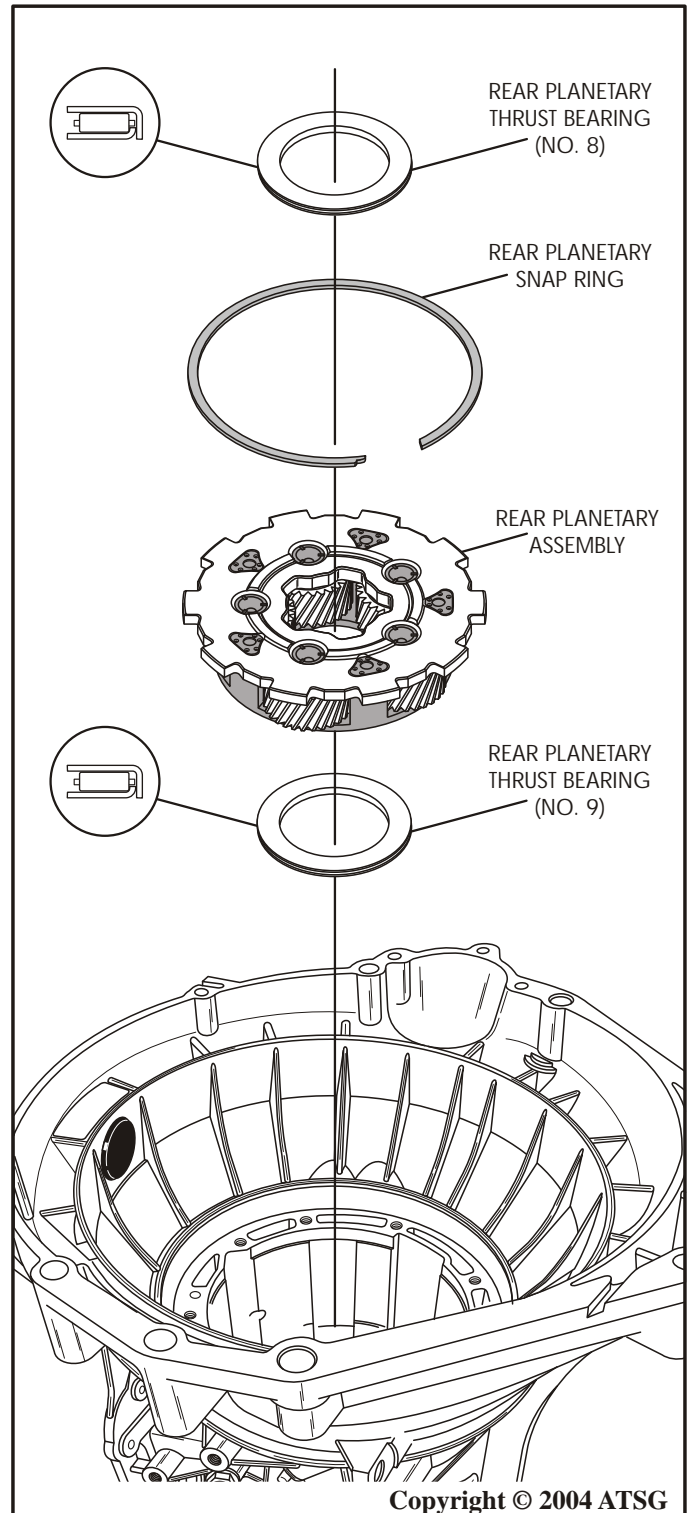

Figure 143
16. Install the rear planetary thrust bearing (No. 9) on top of rear ring, in the direction shown in Figure 143, and retain with small amount of Trans-Jel®.
17. Install the rear planetary carrier assembly, as shown in Figure 143, by rotating into position until fully seated.
18. Install the rear planetary carrier snap ring into groove in the reverse drum and ensure that it is fully seated (See Figure 143).
19. Install the rear planetary thrust bearing (No. 8) on top of the rear planetary carrier, in direction shown in Figure 143, and retain with a small amount of Trans-Jel®.